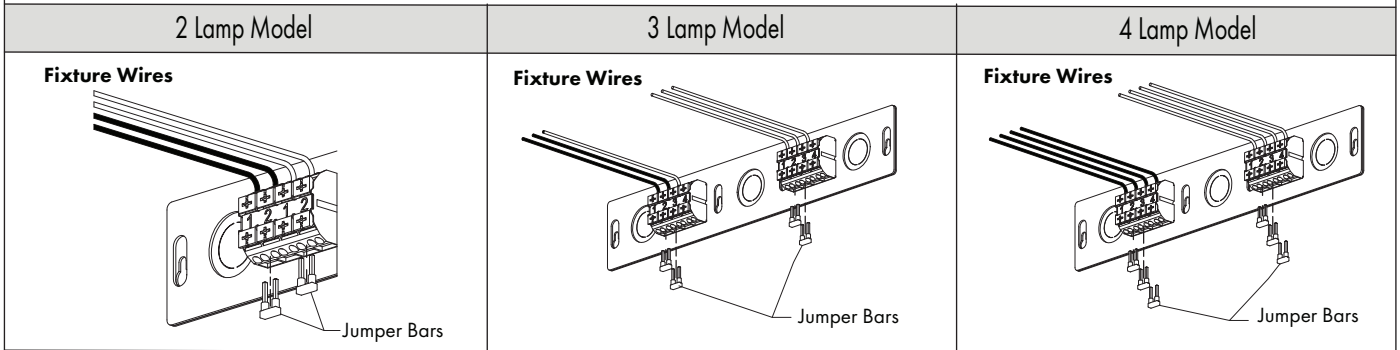

FIG 8.1 Remove Jumper Bars
1. Remove jumper bars to terminal blocks as needed for individual lamp control - FIG 8.1.